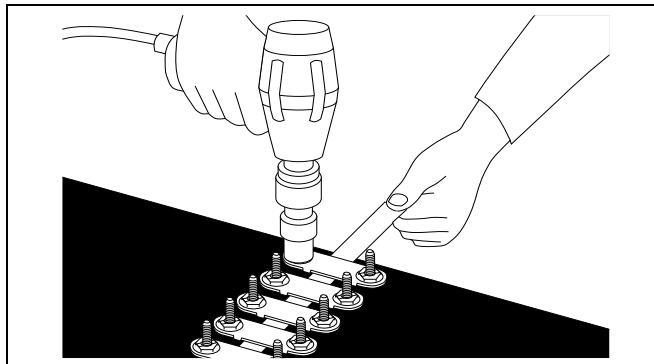

Figure 4L
9. Pull tape tight and hold in position by tightening a fastener at each end of the splice. Then snug down all other plates. *(See Figure 4L.)*